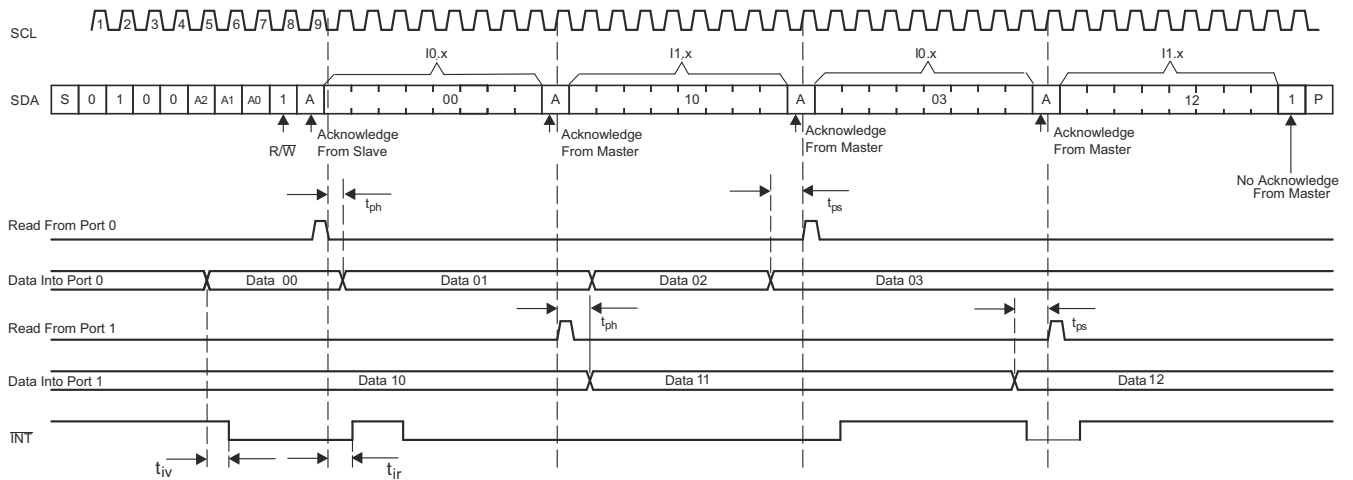

**Figure 8-10. Read From Register**
The bus master first must send the PCA9555 address with the least-significant bit set to a logic 0 (see Figure 8-6 for device address). The command byte is sent after the address and determines which register is accessed. After a restart, the device address is sent again, but this time, the least-significant bit is set to a logic 1. Data from the register defined by the command byte then is sent by the PCA9555 (see Figure 8-10 through Figure 8-12).
- B. This figure eliminates the command byte transfer, a restart, and slave address call between the initial slave address call and actual data transfer from the P port (see Figure 8-10 for these details).